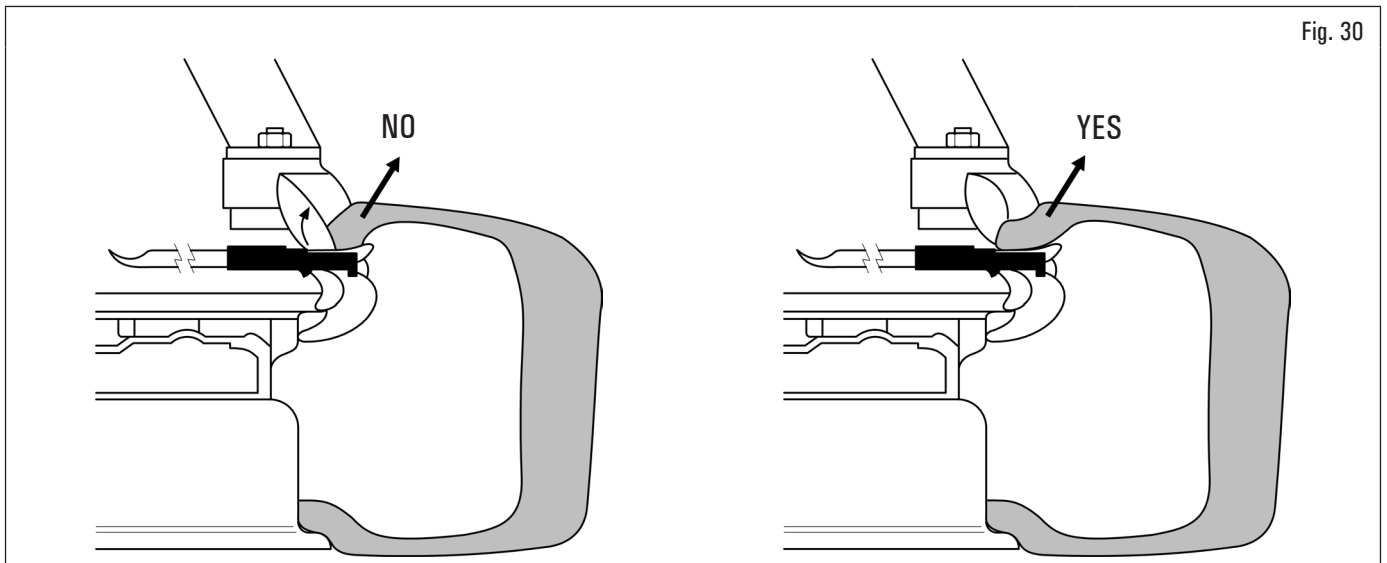

Fig. 30
10. When demounting hard tyres, the bead may come onto the toolhead with the lip turned. This causes the bead to slide from the lever when clockwise rotation begins. To avoid this problem rotate the wheel slightly anti-clockwise until the bead flattens. Now the clockwise demounting cycle can begin (see Fig. 30).